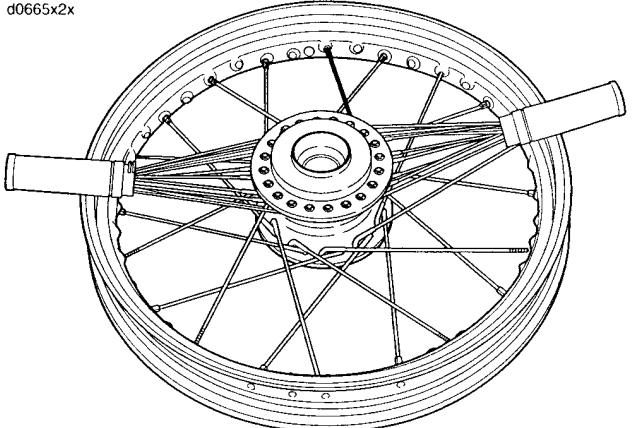

Figure 2-34. Beginning Spoke-Bottom Flange Inner
- a. See Figure 2-34. Each inner spoke (long head) crosses four outer spokes (short head).